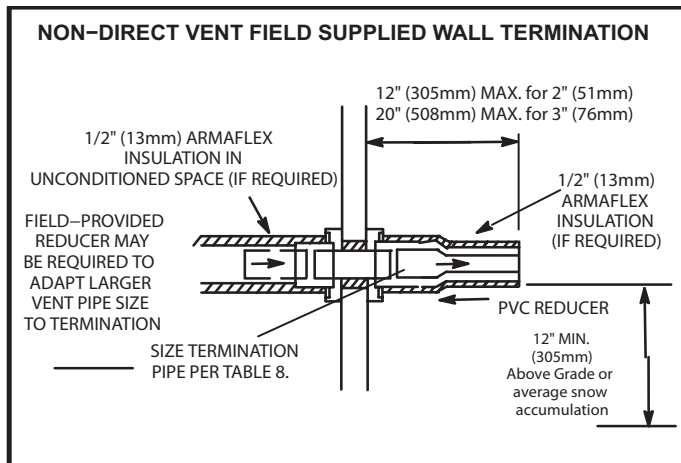

FIGURE 35
2. On field supplied terminations for side wall exit, exhaust piping may extend a maximum of 12 inches (305 mm) for 2" PVC and 20" (508 mm) for 3" PVC beyond the outside wall. See Figure 35.